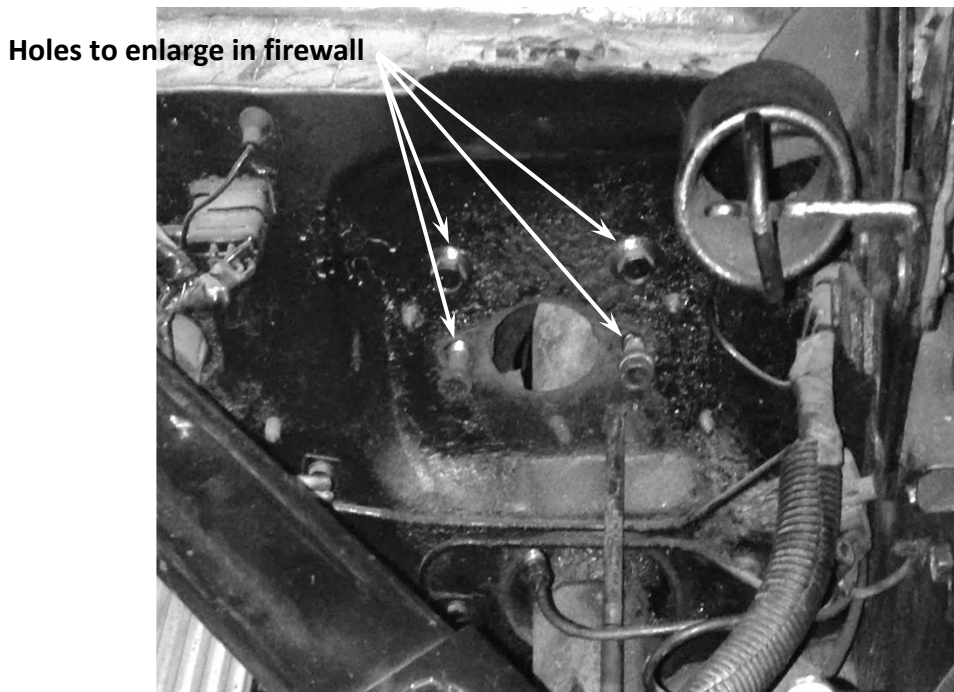

Figure 1 – Location of the Factory Nuts to be Enlarged
2. With everything removed, the factory threaded nuts in the pedal support must be drilled out to accept the bracket mounting bolts. To begin, with the upper bolts still in place, use a 3/8" drill bit and drill each of the factory nuts at the master cylinder location. Once those have been drilled, remove the upper bolts and repeat the same for each of those bolts. The firewall showing the location of each nut can be seen below in Figure 1.